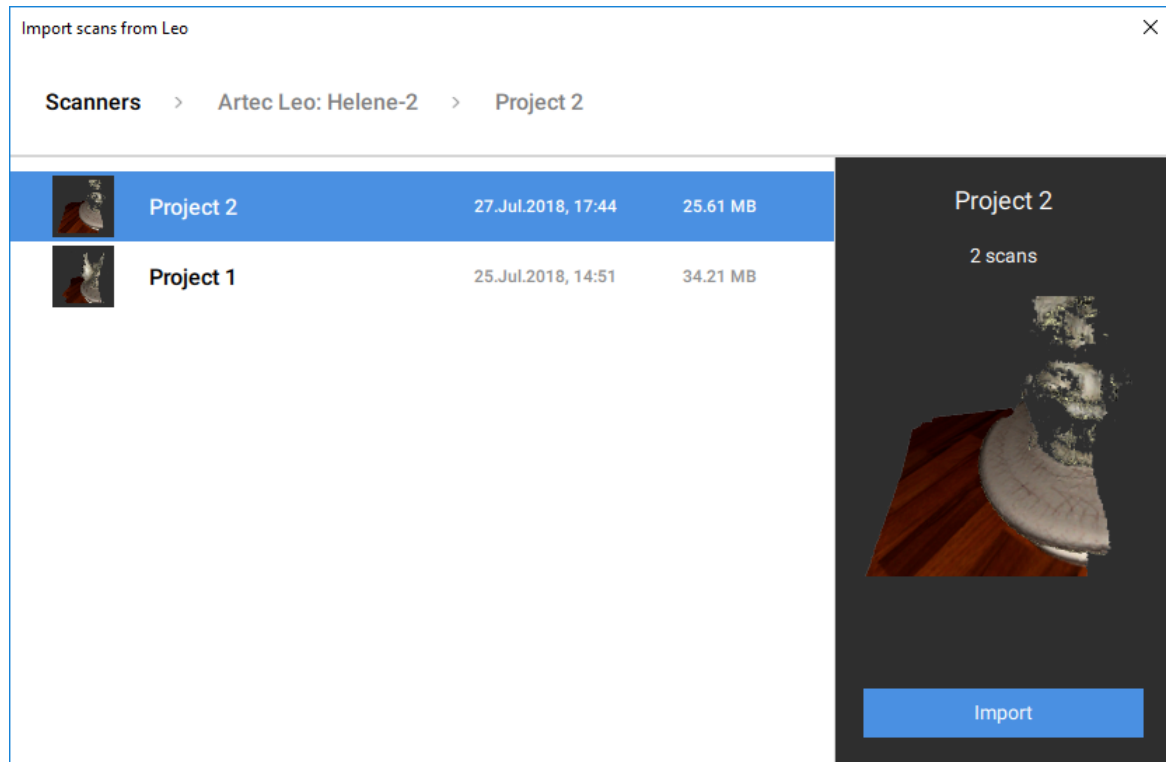

Figure 54: Dialog for selecting Leo projects to import.
4. Then using either **LKM** or **↑** and **↓** select the project that you want to load (Figure 54)